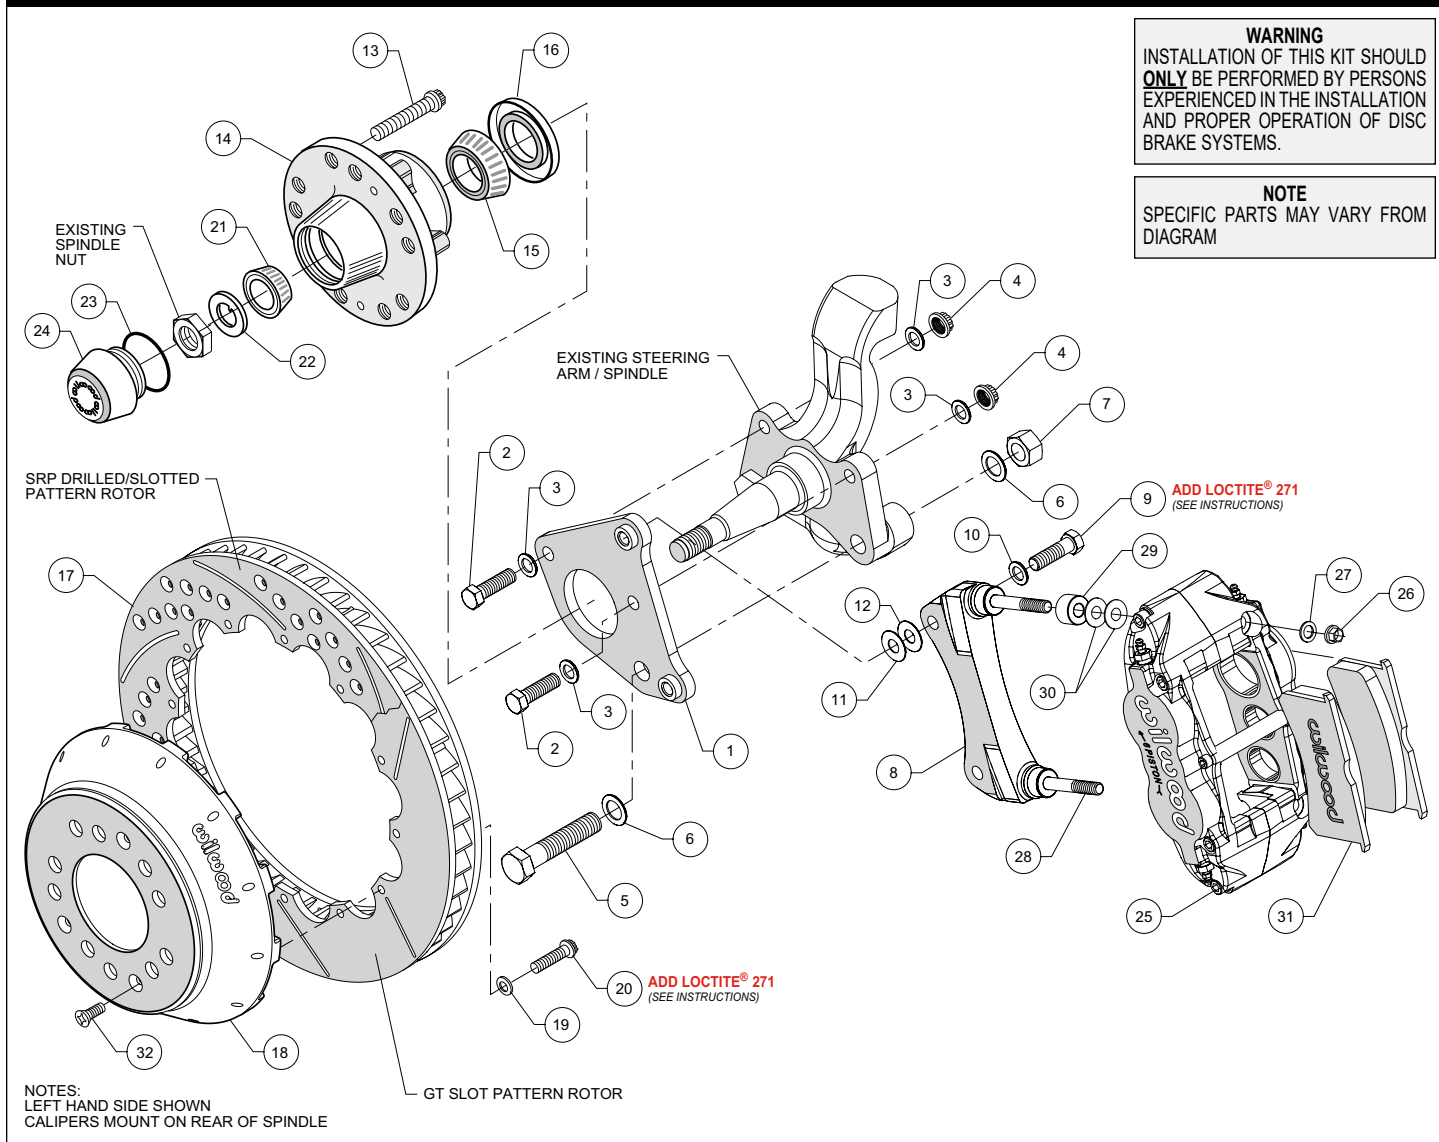

Figure 1. Typical Installation Configuration
NOTE: Numbers in parenthesis refer to the parts list and Figure 1 on the preceding pages.
- Install the flat caliper bracket (1) to backing plate face of spindle using bolts (2 and 5). Install bolt (5) and washer (6) through caliper bracket (1), spindle face and the steering arm. Install another washer (6) and lock nut (7) on the rear side. Install two bolts (2) with washers (3) through caliper bracket (1), spindle face and the steering arm. Install another washer (3) and lock nut (4) on the rear side of each bolt. Torque two lock nuts (4) to 47 ft-lb. Torque lock nut (7) to 140 ft-lb. **NOTE:** Be sure the heads of the caliper bracket (1) insert nuts are facing outward toward the wheel. Reference Figure 1 as necessary.
- The radial caliper mounting bracket assembly (8) should be installed first with clean, dry threads on the mounting bolts. Install the bracket on the inboard side of the flat caliper mounting bracket (1) by sliding bolt (9) through flat washer (10), through the mounting hole in the bracket (8) and into the flat bracket (1) insert nuts. Initially place two shim washers (12) between the two brackets (1 and 8) (see figure 1). The radial bracket (8) must tighten squarely against the inboard side of the flat mounting bracket (1). Later, after the caliper, pad, and rotor alignment has been checked, and any necessary shims have been put in place, the mount bolts should be coated with red *Loctite*® 271 and torqued to 47 ft-lbs.
- Install five new wheel studs (13) into the hub (14). Torque to 77 ft-lb. **NOTE:** There are two five lug patterns in the hub (5 x 4.00 and 5 x 4.50). Make sure of the correct hole pattern for the correct wheel application before installing studs into hub.
- Pack the large inner bearing cone (15) with high temperature disc brake bearing grease (available from your local auto parts store) and install into the backside of the hub (14).
- Pack the small outer bearing cone (21) with high temperature disc brake bearing grease. Lightly coat the spindle bearing surfaces with bearing grease. Slide the hub assembly (13, 14, 15 and 16) with outer bearing cone (21) onto the spindle. Secure using spindle washer (22) and existing spindle nut. Adjust bearings per OEM specifications and install nut locking device.
- Install the dust cap (24) onto the hub (14). Friction created by the o-ring (23) on the dust cap (24) keeps it from unscrewing. The O.D. of the existing spindle washer may be larger than the I.D. of the dust cap (24) which may allow the washer to contact the dust cap (24). Be sure to use the spindle washer (22) supplied with the kit instead of the stock washer.
- NOTE:** This kit contains distinct right and left hand calipers that must be mounted in a specific direction, as described below. Initially place two .035" thick shims (30) and one spacer (29) on each stud (28) as shown in Figure 1. Mount the caliper (25) onto the bracket (8) using lock nuts (26) and washers (27), Figure 1. Ensure that the caliper is mounted so that the largest pistons are at the rotor exit end of the caliper, in relation to the direction of rotor rotation. Temporarily tighten the lock nuts and view the rotor through the top opening of the caliper. The rotor should be centered in the caliper. If not, adjust by adding or subtracting shims (11 and/or 12) between the radial bracket and the spindle bracket. Always use the same amount of shims on each of the two mounting bolts.
- Remove the caliper center bridge pad retainer bolt, nut, and tube from the caliper. Slide the brake pads (31) into place. They should install easily without interference. Check that the outside radius of the brake pad is flush with the outside diameter of the rotor face. Add or subtract shims (30) between the caliper and radial mounting bracket to gain the proper alignment. Reinstall the center bridge pad retainer tube, bolt, and locknut. The locknut should be snug without play in the bolt or tube. Be cautious not to over tighten.
- Once all clearances have been checked, remove the wheel, caliper, hat, and rotor from the spindle and hub. Secure the radial caliper mounting bracket (8) to the flat caliper mounting bracket (1) using red *Loctite*[®] 271. Torque the bolts to 47 ft-lbs. Reinstall the hat and rotor assembly and again use several lug nuts to hold it in place. Reinstall the caliper, torque the caliper nuts (26) to 28 ft-lbs.
- Install three flat head socket screws (32) through the small holes in the hat (18) and torque to 85 in-lb.